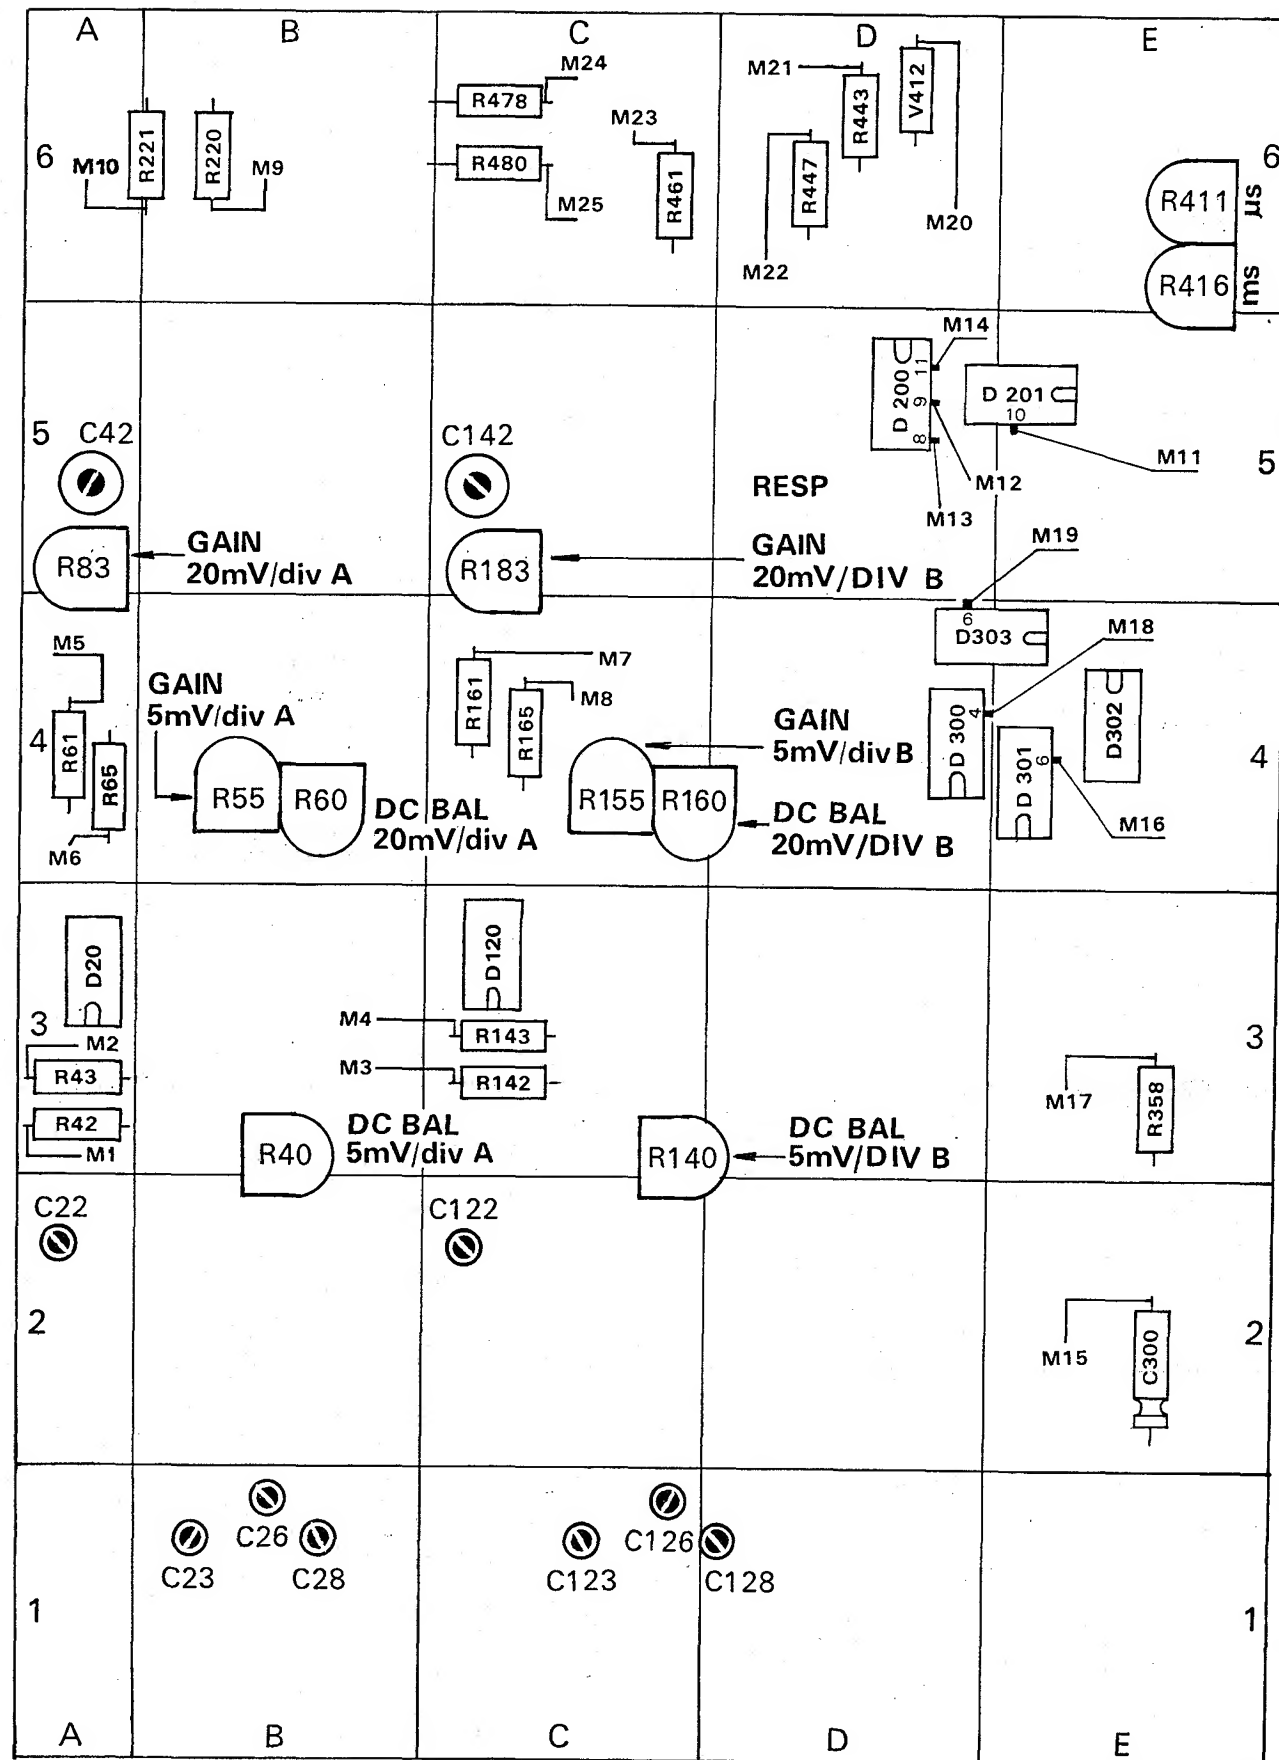
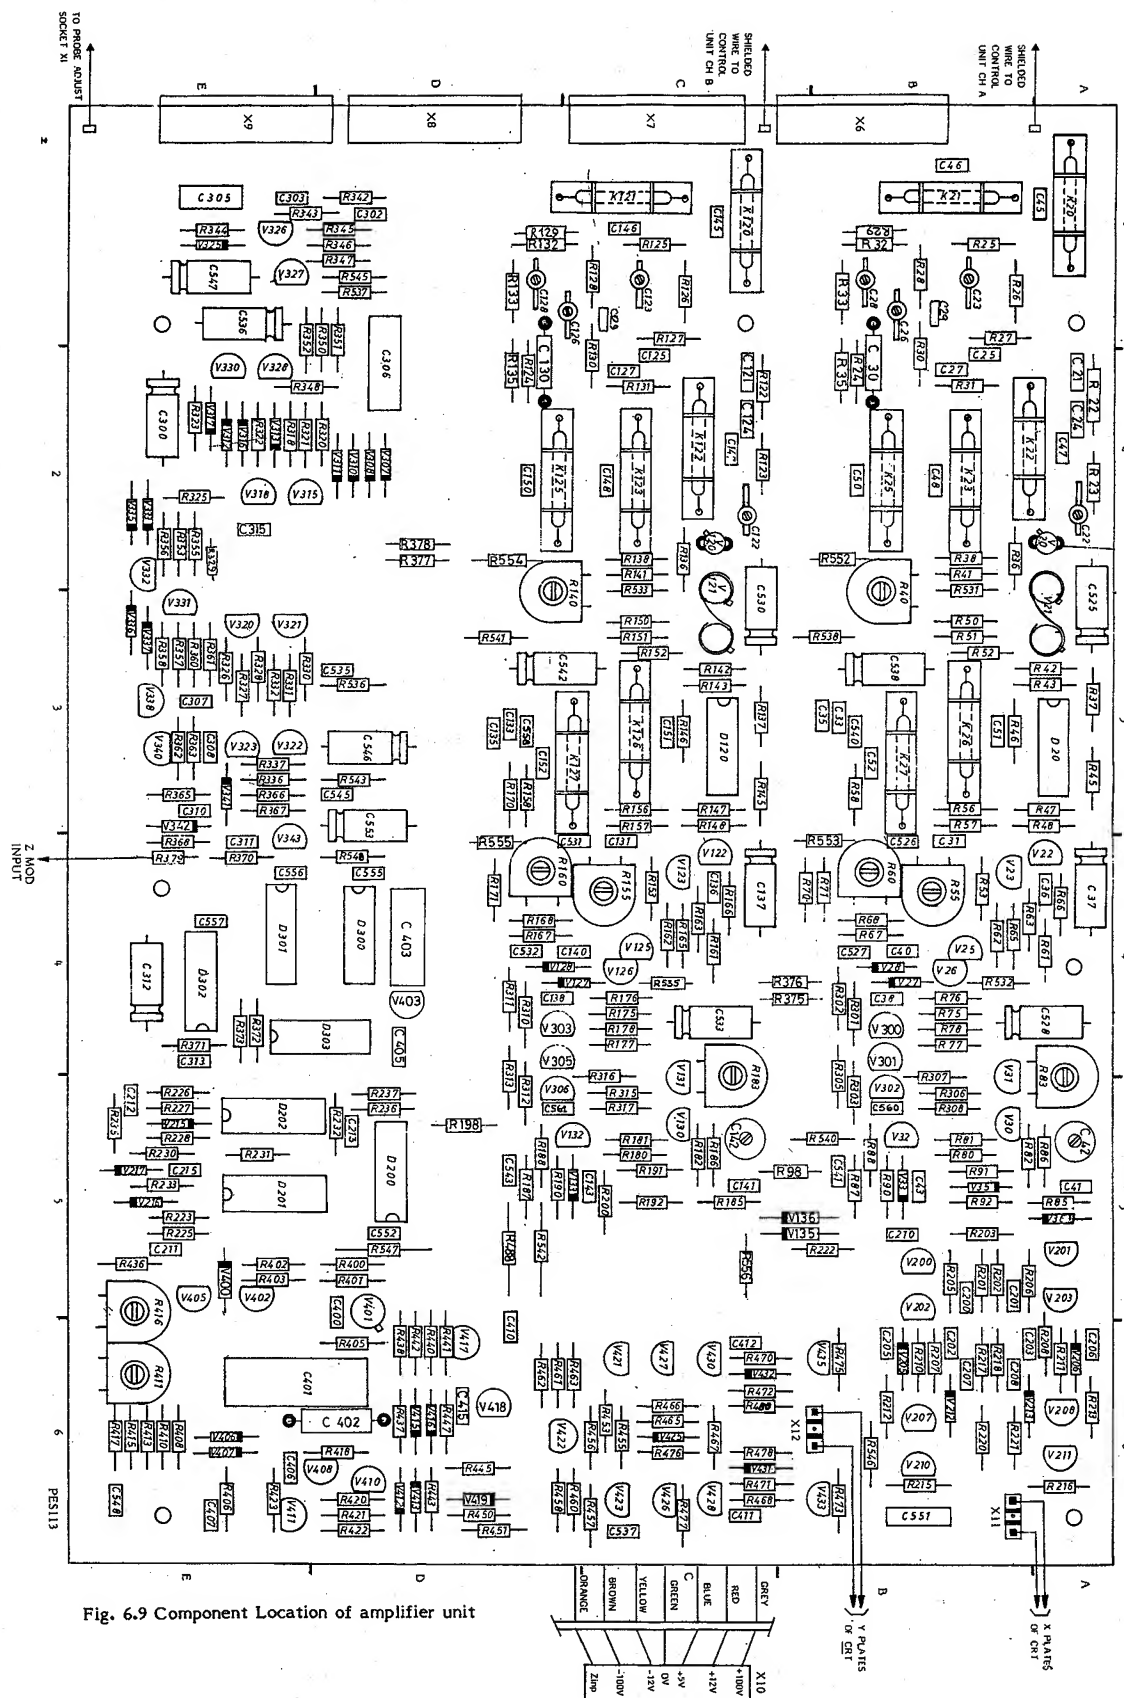

Fig. 6.8 Survey of measuring points
Fig. 6.9 Component Location of amplifier unit
- To make fault finding easy, test points M1 to M26 are given below. These test points can be located on the PCB with the help of fig. 6.8 and fig. 6.9.
- Apply a sine wave signal of 120 mV peak to peak to YA(YB) input.